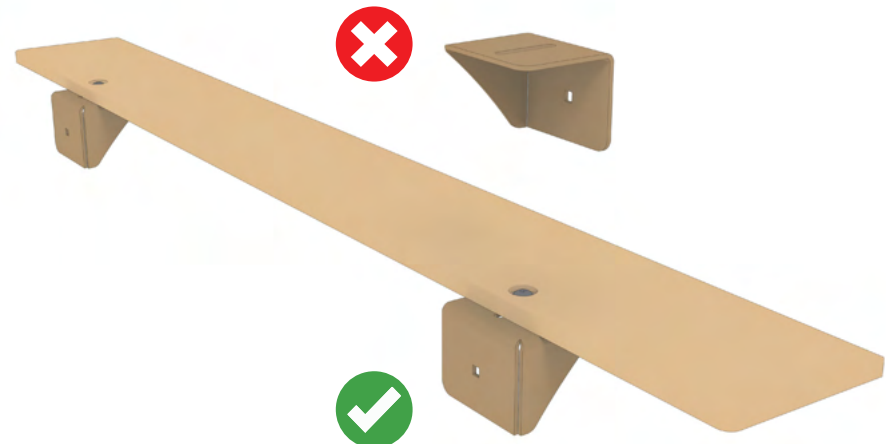

FIG 71
**NOTE -** The **Wing Supports** are not directional and need to be installed as shown (FIG 71).